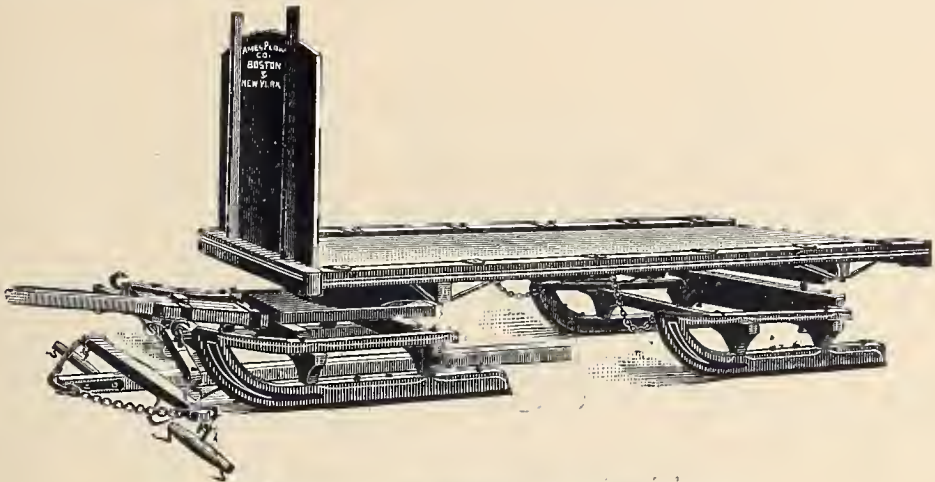

Fig. B 573.—Traverse Runner Sled.
*The Traverse Runner Sled*, illustrated at *Fig. B 573*, is of a pattern that is very acceptable for both city and country use. It is constructed with a platform, and the side and rear boards, which we furnish when desired, can be readily put on by means of the holes in platform and stakes on the boards.